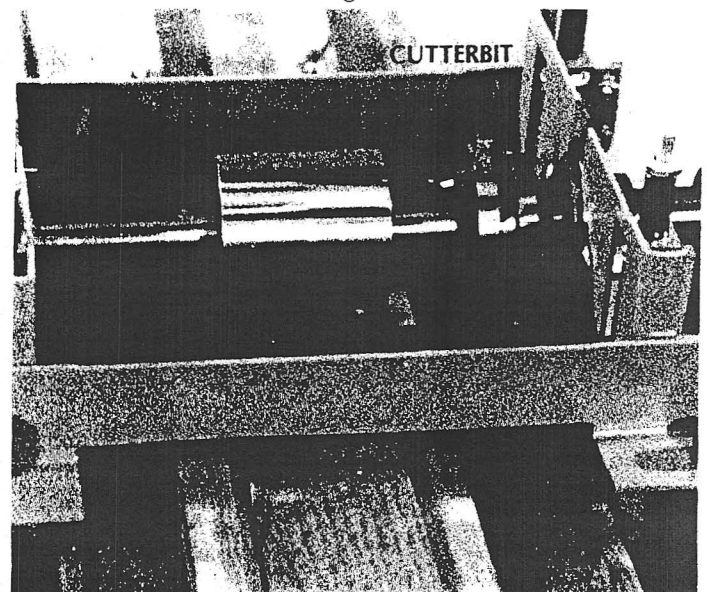

Fig. 17
3. Repeat for the remaining cutterbits. (fig. 17)